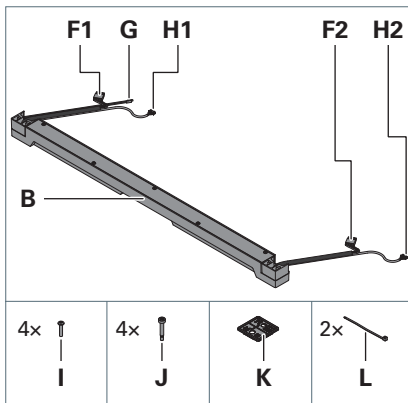

Fig. 2: Supplementary pack adapter U.
- Do not remove the components from the supplementary pack until they are required in the respective assembly step, see Fig. 2.